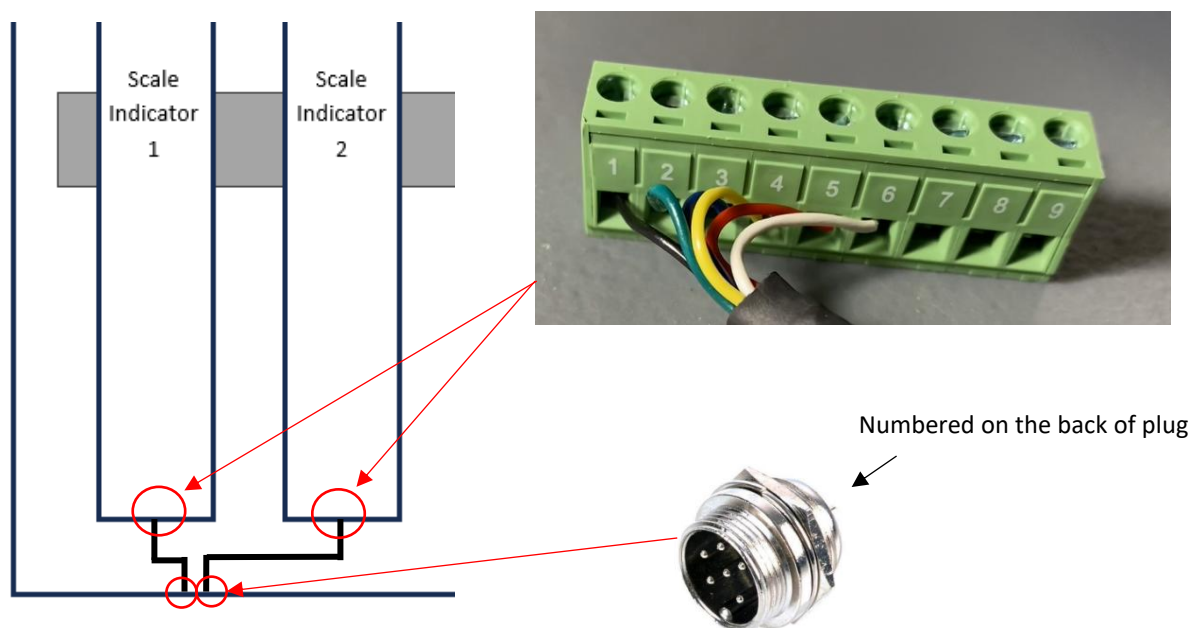

Figure 43 - Load Cell Wiring
- A short cable runs from the 6-pin socket to the 9-pin connector on the indicator, as shown in FIGURE 43 - LOAD CELL WIRING